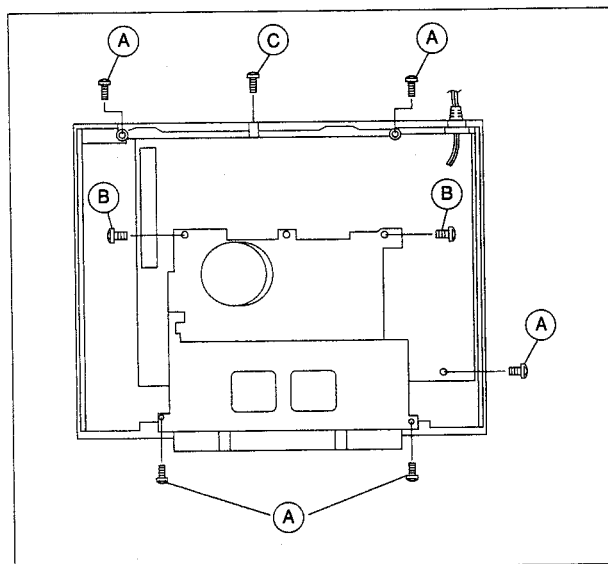

Fig. 1-5-1
- (1) Remove the Top cover, Front panel assembly, CN1201 and CN1202 of DISPLAY board assembly.
- (2) Take out 5 screws (A), 2 screws (B) and 1 screw (C) as shown in Fig. 1-5-1.